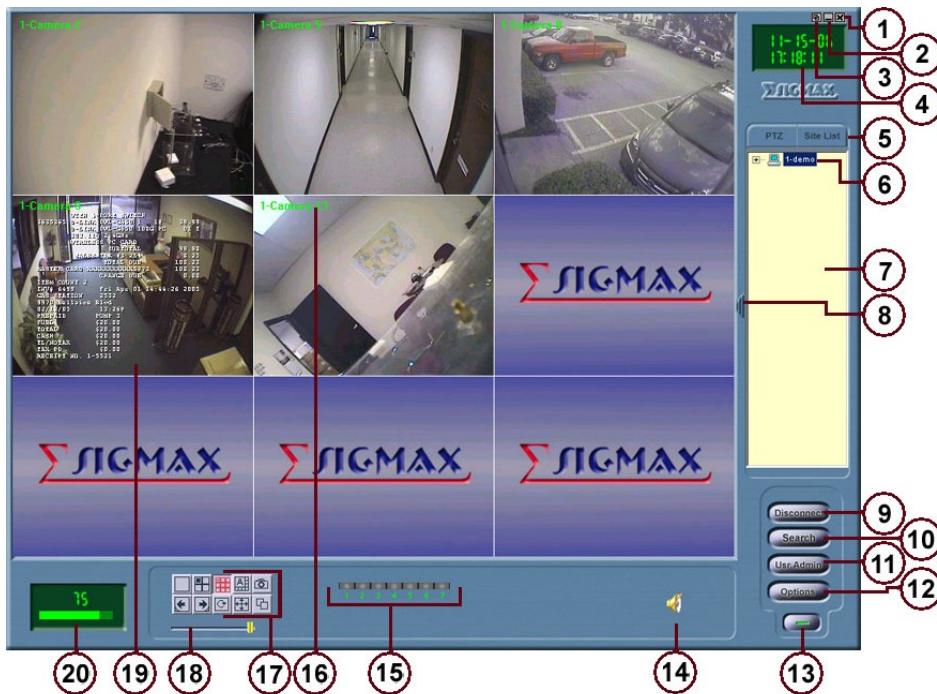

Figure 6-1 Remote Center Main Screen
- (1) **Stay On Top.** Select/Deselect to enable/disable the Remote Center staying on top.
- (2) **Show Camera Title.** Select/Deselect to show/hide the camera titles (Figure 6-1 (17)) on the camera images (20).
- (3) **Show POS Overlay.** Select/Deselect to show/hide the POS Overlay.
- (4) **Clear POS Overlay.** Select to clear the POS Overlay.
- (5) **Normal Display.** Select when in Monitor Mode Display to return to Normal Display Mode.
- (6) **Monitor Mode Display.** Select when in Normal Display Mode to enter Monitor Mode Display.
- (7) **Connect Site.** Select when not connected to the current selected site to connect to that site.
- (8) **Disconnect Site.** Select to disconnect from site.
- (9) **Search Site.** Select to view the Search Window for the current selected site (Section 6.2.7).
Click the User Admin Button (Figure 6-1 (11)) to view the User/Site Configuration Window:
Click the Options Button (Figure 6-1 (12)) to view the Options window (available only when the user logs in as Admin):
- (1) **Auto Connect on Startup Box.** Check/Uncheck to enable/disable auto connecting on Remote Center startup.
- (2) **Start with Windows.** Check/Uncheck to enable/disable auto running of Remote Center when Windows OS loads up.
- (3) **Lock Terminal.** Check/Uncheck to enable/disable Windows desktop. When it is checked, users other than Admin can only use Remote Center on the terminal because other Windows functions are disabled completely. User Admin can also check **Start with Windows** to ensure the terminal is always locked even after a system reboot.
**Auto Hide.** Check/Uncheck to allow/disallow automatic hiding of Remote Center window along the edge of Windows desktop. The hiding only happens when Remote Center is in Monitor Mode display. See Figure 6-1 (3) for Monitor Mode display.
- (4) **Run in Compatible Mode Box.** Check/Uncheck to enable/disable running Remote Center in Compatible Mode. Check this options if the video image is not displayed (black screen) after successful connection to the site. You may need to restart the Remote Center.
- (5) **Enable Motion Recording Box.** Check/Uncheck to enable/disable motion recording.
- (6) **Enable Recording Box.** Check/Uncheck to enable/disable recording.
- (7) **Delete Button.** Click to delete recorded data from the drive selected in the Drives List (6).
- (8) **Drives List.** Displays hard drives and their data that Remote Center can store recorded data in. Check/Uncheck the box next to a drive to enable/disable storing recorded data in that drive.
- (9) **Timing Setup.** Setup for control of timing-related functions in Remote Center. Sequence Dwell, Post Motion, and Motion Beep (Beep Length) Adjusters are all the same as in 4.5 Motion Setup.
- (10) **POS Setup.** Setup for Remote Center POS Text Overlay. Enter the starting Row and Column Positions for Display Position. Display Size Lines and Columns Boxes, Text Color, Exception Color, and Font Button are all the same as in 4.7 POS Interface Setup.
- (11) **Apply Button.** Click to apply any changes.
- (12) **Cancel Button.** Click to return to the Main Screen discarding any changes.
- (13) **OK Button.** Click to return to the Main Screen, applying any changes.